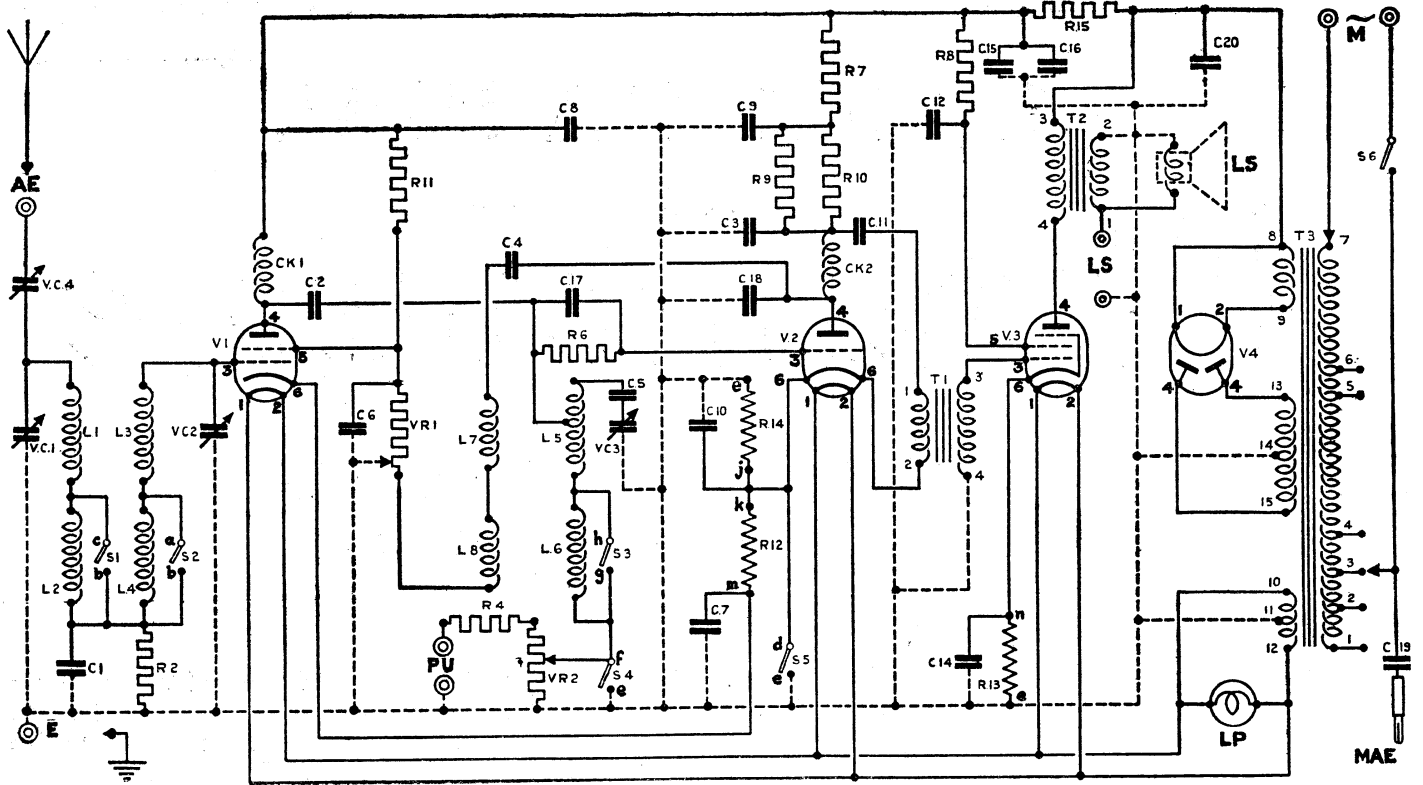

Fig. 1.
Model 42 is a 3-tuned circuit band pass radio receiver. The band pass tuning consists of an aerial tuning circuit (L 1, L 2, VC 1) and a grid tuning circuit (L 3, L 4, VC 2) the High Frequency signal being passed to the grid of the detector valve with a choke capacity arrangement (CK 1 & C 2). The grid circuit of the detector valve being also tuned (L 5, L 6, VC 3), 2 fixed reaction coils (L 7, L 8) being wound on former of L 5, L 6 (Fig. 1).
**H.T. Positive**—(Red) is fed from fil. lug of valve holder (V 4), via R 15, via main dropping resistances R 7 and R 8 to anodes and screens of valves. (See Figs. 1 and 2.)
## TUNING ARRANGEMENTS (See Figs. 1 and 3).